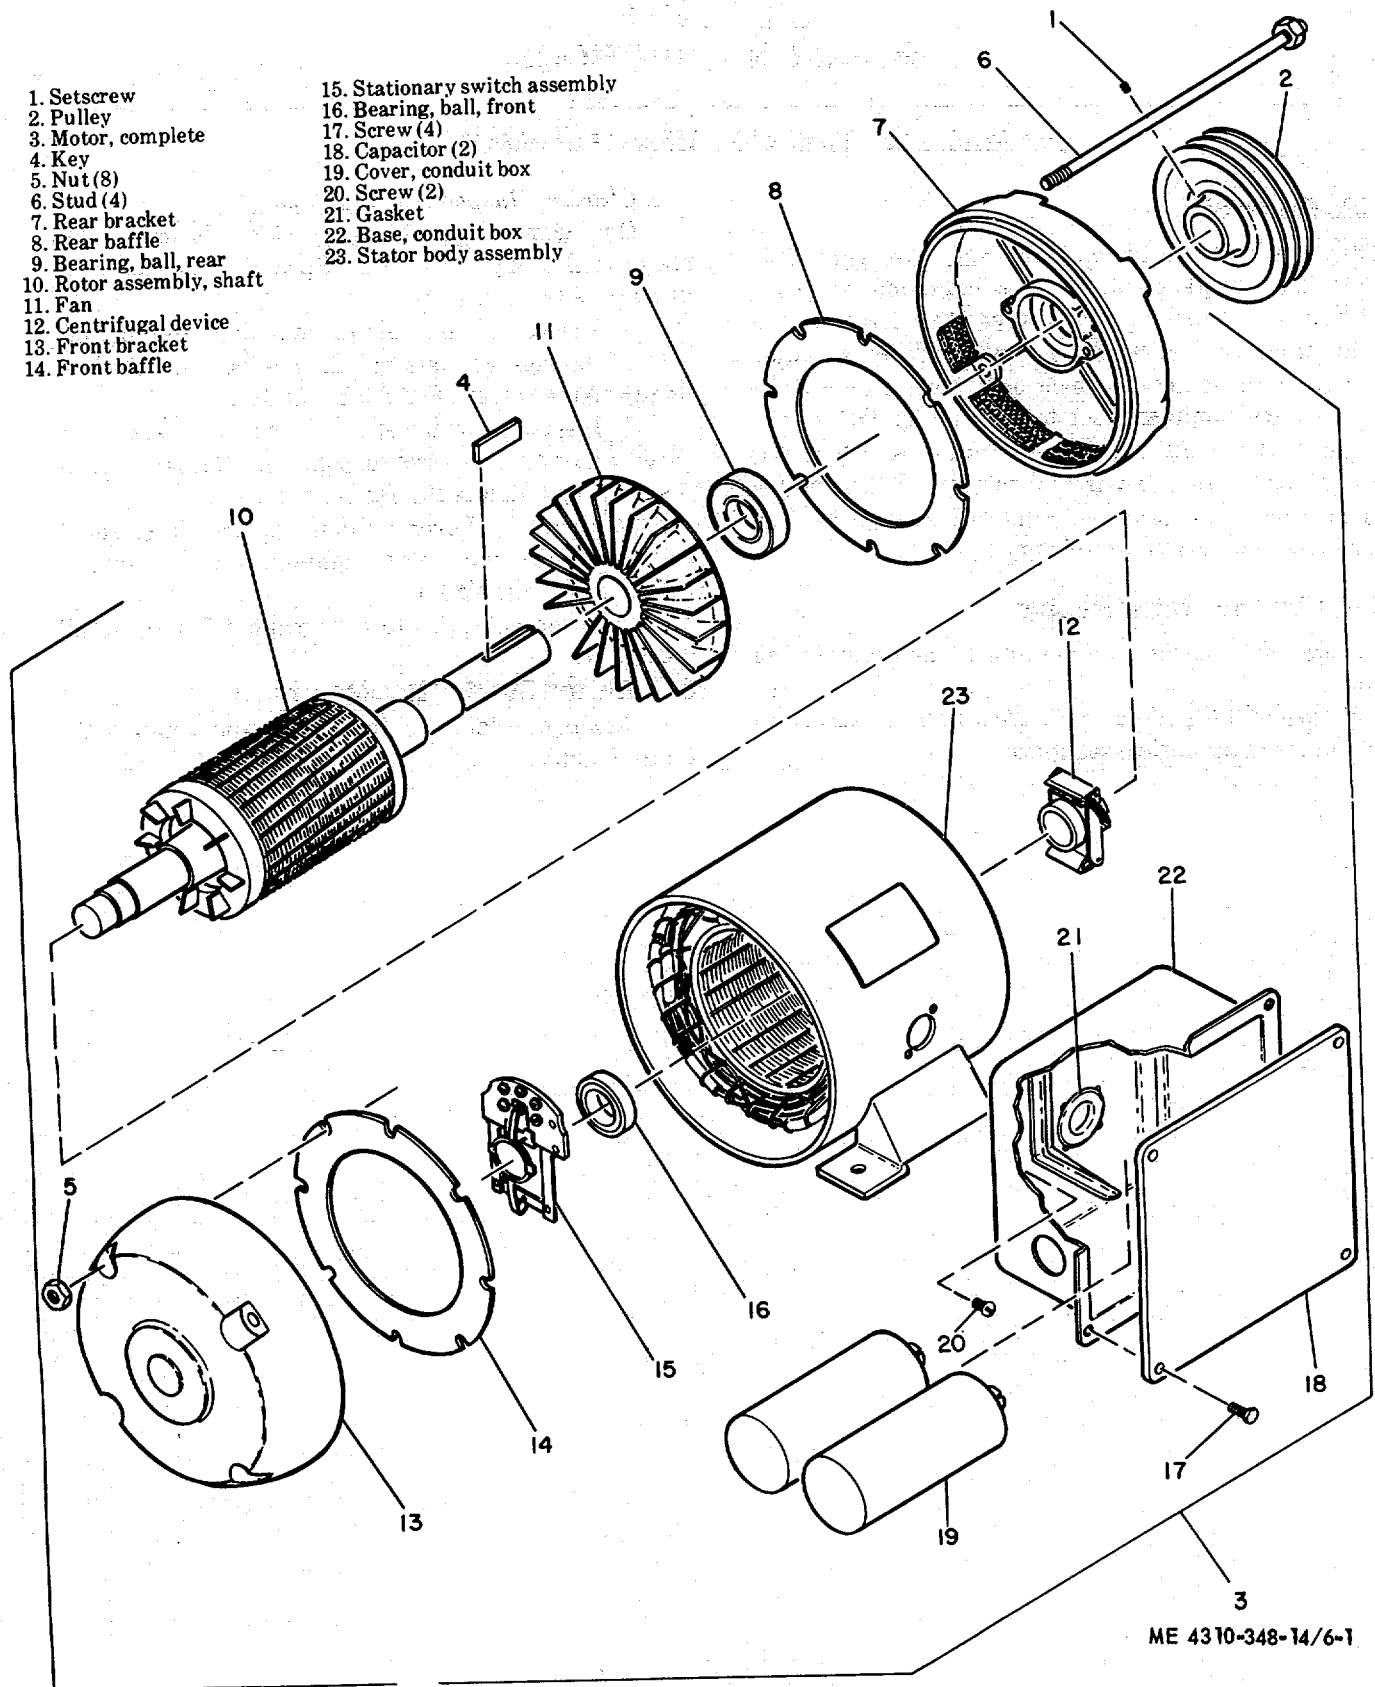

Figure 6-1. Electric motor, exploded view.
- b. *Disassembly.* Refer to figure 6-1 and disassemble the motor in numerical sequence.
(1) Clean all parts except rotor, bearings and stator in cleaning solvent Fed. Spec. P-D-680 and wipe dry with a lint free cloth.
(2) Use compressed air to clean dust and, dirt off rotor, bearings and stator, then wipe with a cloth dampened in solvent Fed Spec P-D-680.
(3) Inspect bearings and rotor shaft for excessive wear and rough or scored surfaces. Replace defective bearings. Replace a defective rotor shaft.